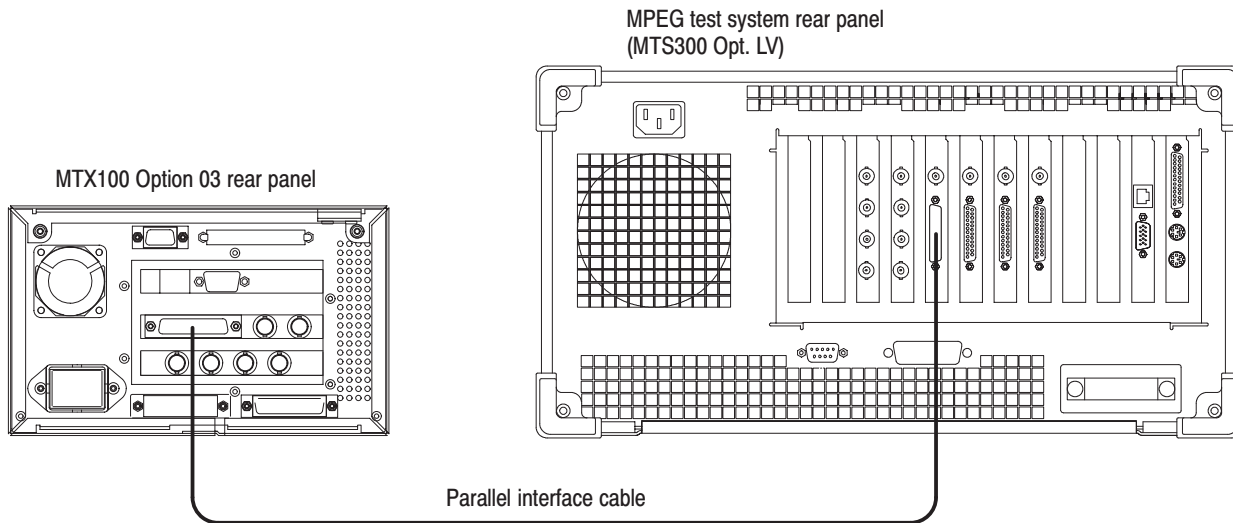

Figure 4-16: Third equipment connections for verifying the BNC interface
54. Use the parallel interface cable to connect the SPI IN/OUT connector on the MTX100 Option 03 to the SPI (LVDS) 3 IN connector on the MPEG test system as shown in Figure 4-16.